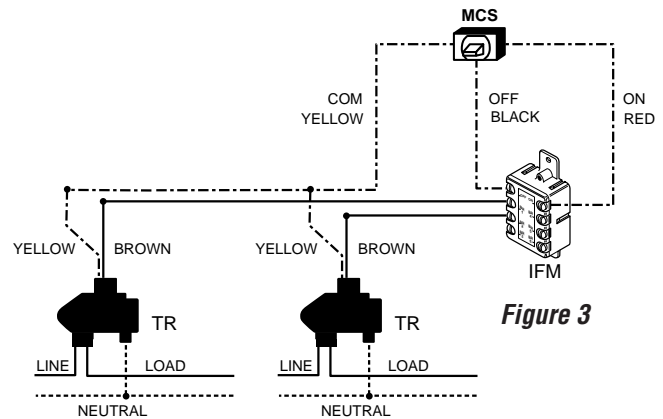

Figure 3
**Step 2.** Use suitable low-voltage wiring to connect one (1) through (6) Transformer Relays to the IFM as illustrated in Figure 3.